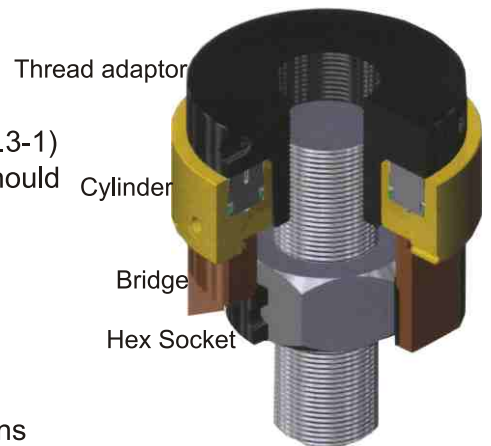

Fig 3.3-1
- 3.3 Check that studs and nuts have been assembled correctly (as Fig 3.3-1)